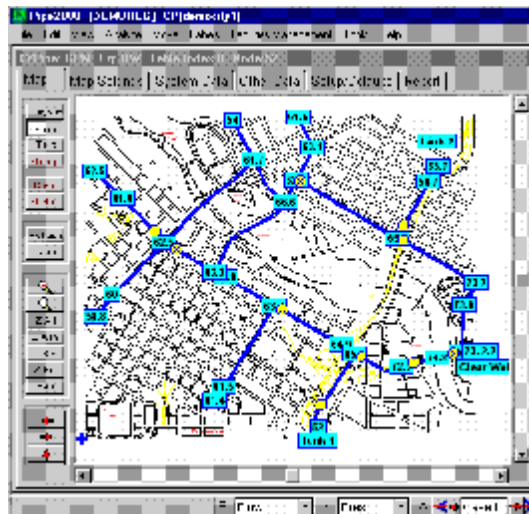

Figure 2 Results Labels, Case 0
**1) Results Labels:** Click on **Labels**, **Pipe Results**, and **Pipe Result A** and repeat for **Node Results** and **Node Results A**. This will display flow rates (in g.p.m.) for each pipe and the pressure (in p.s.i.) for each node for the baseline data (Case 0). Figure 2 shows this display. You can use the **Results Selector** bar at the bottom of the screen to select different parameters for nodes (drop down list for **N** (node) box) and pipes (drop down list for **P** (pipe) box) and look at Cases 1 and 2 using the arrows in the **A** case/time selection box.